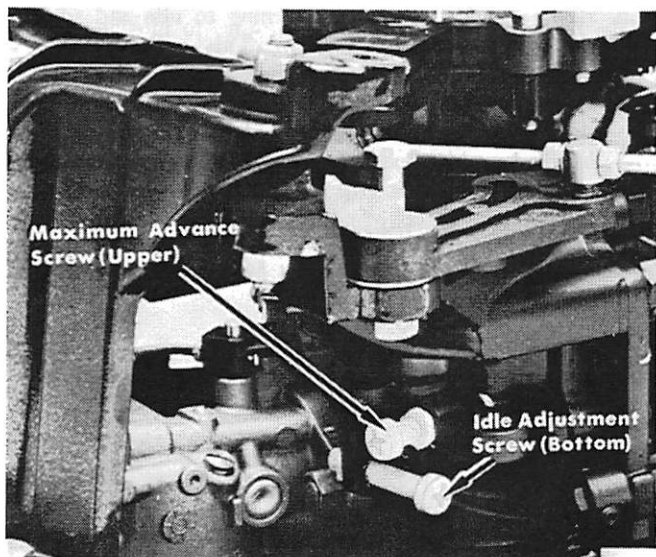

Figure 4. Clearance Adjustment
10. Open throttle with twist grip to full throttle and adjust upper screw on vertical throttle shaft lever for .035" to .048" (.89 to 1.22mm) (3/64 drill) clearance between end of throttle pickup screw and carburetor cluster pin. Tighten jam nut after adjustment is completed. (Figure 4)
7. Open throttle with twist grip to full throttle and adjust upper screw on vertical throttle shaft lever for .035" to .048" (.89 to 1.22mm) (3/64" drill) clearance between end of throttle pickup screw and carburetor cluster pin. Tighten jam nut after adjustment is completed. (Figure 4)